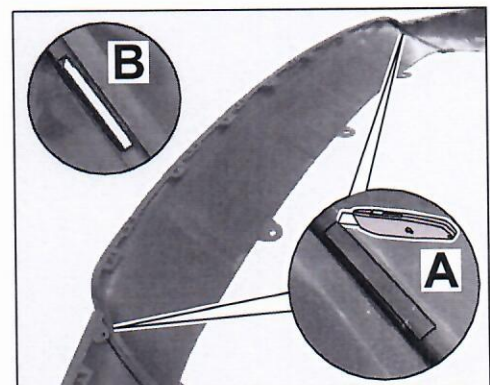

Figure 6
2.1.1 Use a Stanley knife along the embossing (⇒ *Figure 6 -inset A-*) to make a slot in the front spoiler at the left and right (⇒ *Figure 6 -inset B-*).